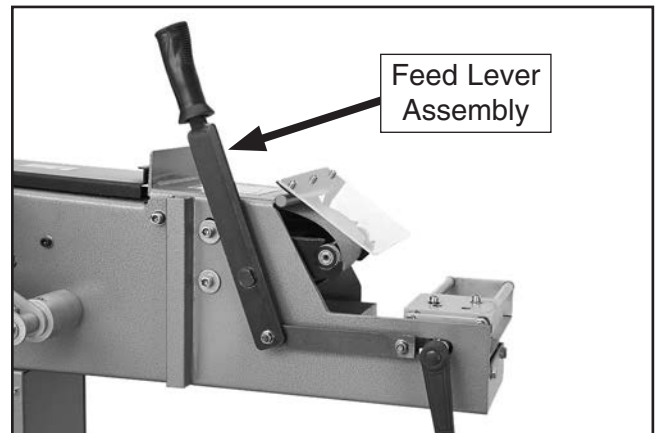

Figure 14. Feed lever assembly attached.
15. Attach feed lever assembly to machine with fasteners removed in **Step 14** (see **Figure 14**).